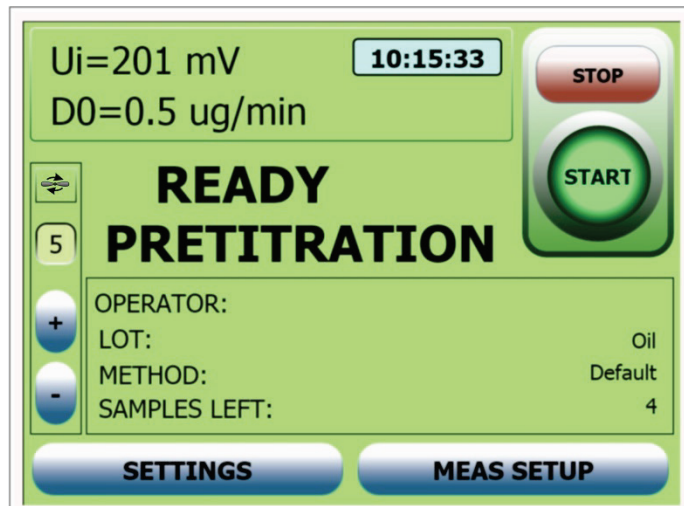
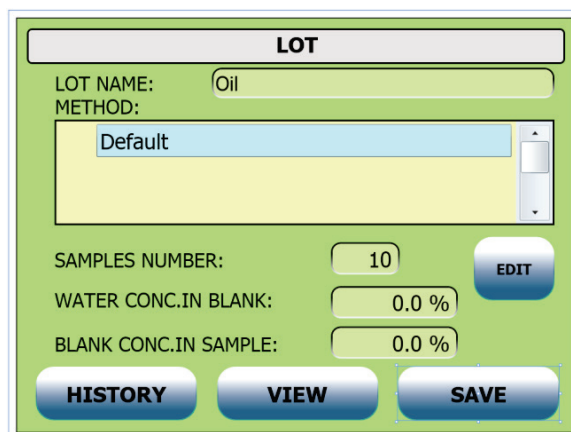

Figure 7
Figure 8
- For changing to the pre-titration mode press the “START” button. Now the iodine generation function is switched on, and the stirring device begins to work. When the work starts the titrator is in the state of non-readiness “NOT READY”. When the titration cell is ready, the mode “READY” or “STABLE” is switched on depending on the drift value of the titration cell measured in the pre-titration mode. The “START” button becomes green; the instrument is ready for measurements (Figure 7).
To configure a measurement push “MEAS SETUP” button at the main working window (Figure 7), the lot configuration window will appear (Figure 8).